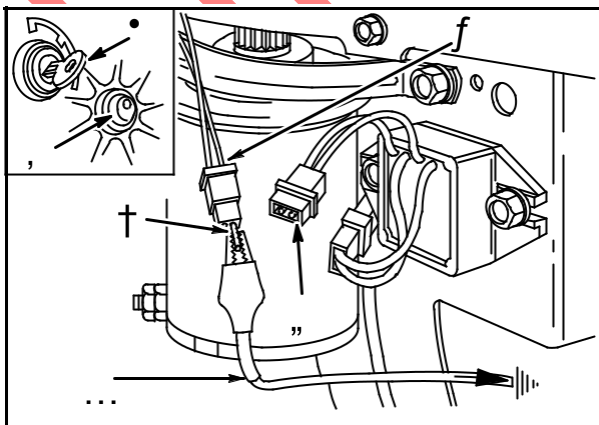

Fig. 44
Disconnect output harness (3) at WHITE connector (4), **Fig. 44**.
Attach other end of jumper wire (6) to charge indicator terminal in harness connector, **Fig. 44**.